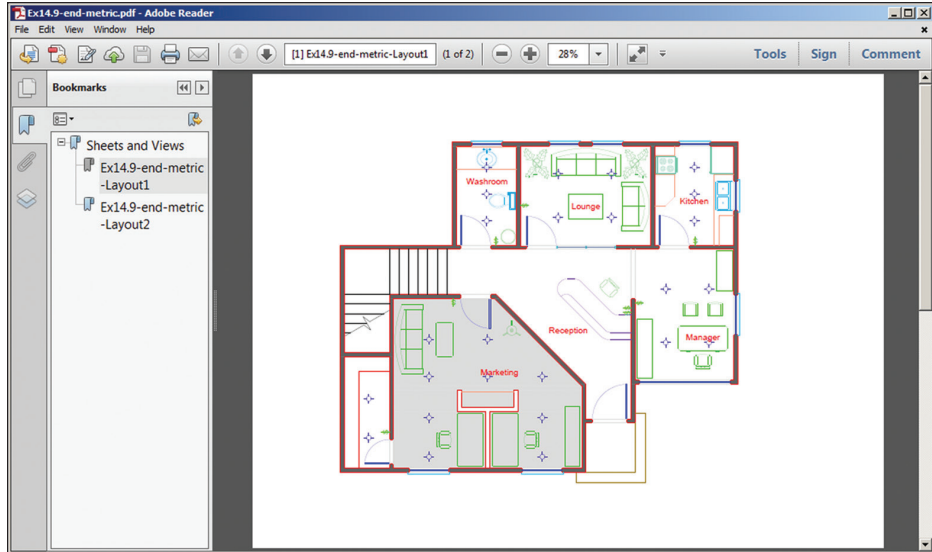

FIGURE 14.27 PDF with bookmarks displayed in Adobe Reader
- Click Save. The program your computer has associated with PDFs opens (in most cases, this will be Adobe Reader). Note that both of the drawing's layer states, Furniture Plan and Reflected Ceiling Plan, automatically appear as bookmarks in Adobe Reader (see Figure 14.27), but these are labeled with the filename and the words *Layout1* and *Layout2* are appended.